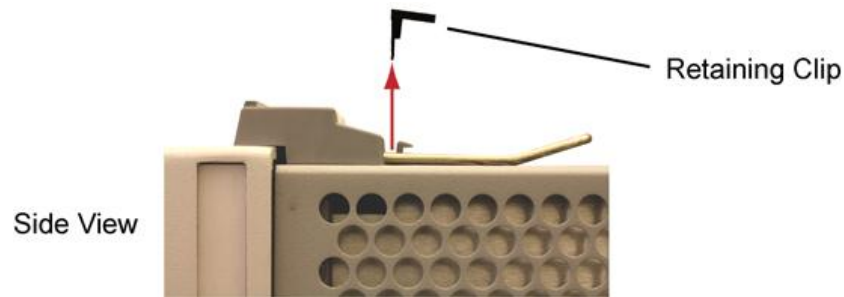

Figure 5. Removing the Front Left Foot
6. Carefully insert the blade of a flat- bladed screwdriver under the black retaining clip. Gently pry the clip straight up from the foot as shown in Figure 5.